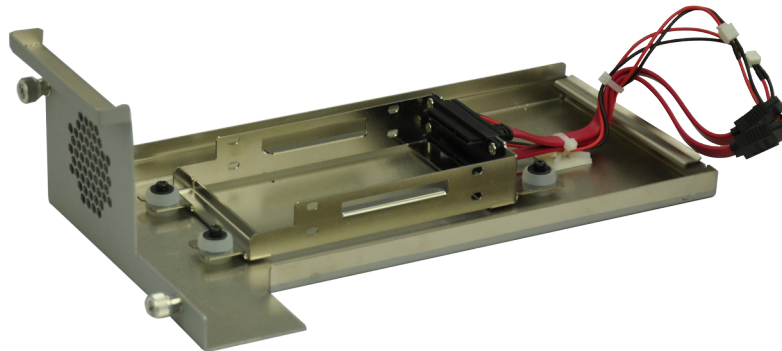

Figure 3-2: Remove the Cover from TANK-870-Q170 Series
Step 2: Unplug the SATA signal and power cables connected to the TANK-870-Q170 Series, and then put the cover on a flat surface (**Figure 3-2**).
- Step 2:** Unplug the SATA signal and power cables connected to the TANK-870-Q170 Series, and then place the cover on a flat surface (**Figure 3-2**).